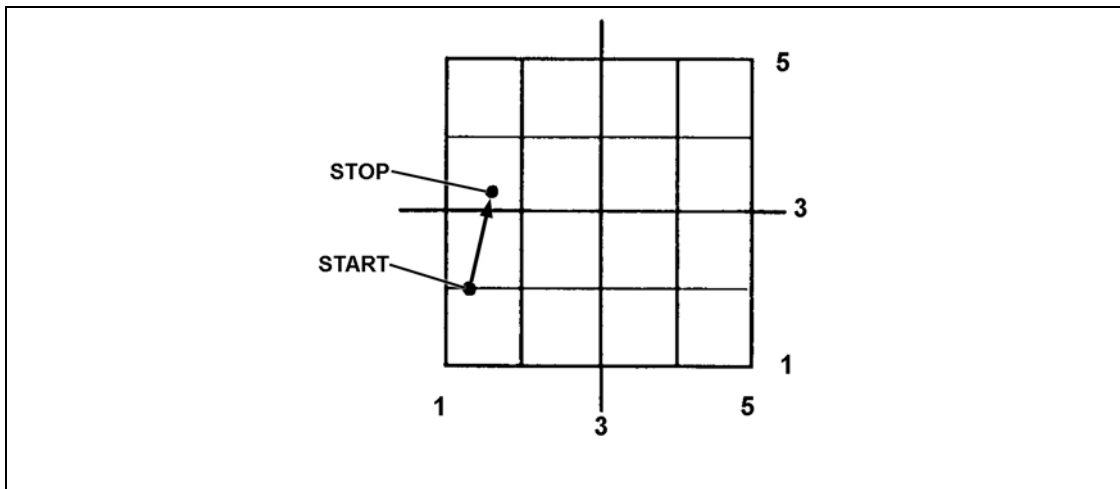

Figure B-24. Adjusted aim point.
(14) Helper tells the gunner to lay the gun the distance and direction shown by the arrow from the last lay of the telescope (Figure B-24, page B-17).
(15) The example shows the start and stop points of a gun lay with the telescope starting in the *left* position. In this case, the gun was moved about 1 1/4 mils in the direction of one o'clock. You can lay the gun with the telescope in any position (*left* or *right*), but you must move the gun the distance and direction indicated by the arrow.